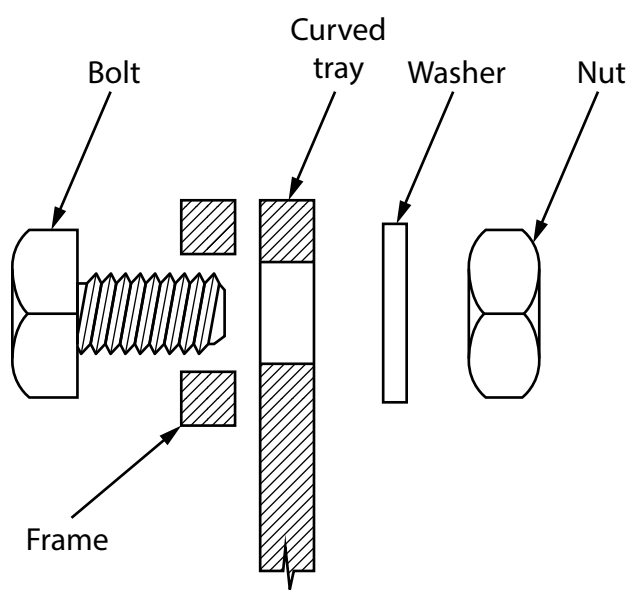

Figure 16
- (d) Figure 16 is an exploded assembly view showing how the frame is joined to the curved tray.